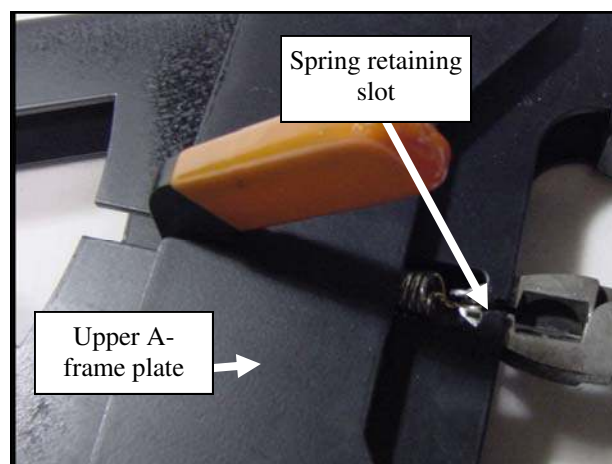

Fig. 7.6—Blade angle handle installed
- 7.6 Per fig 7.6, with a pair of pliers stretch the handle spring away from moldboard and engage the spring hook into the retaining slot of the upper A-frame plate.